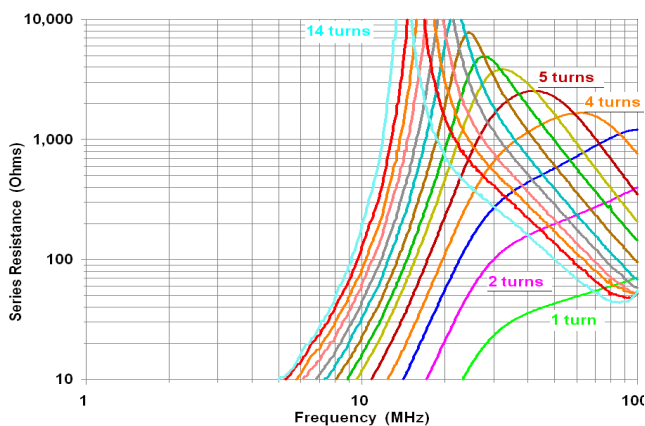

Fig 33 –  $R_s$  for chokes on 2.4" o.d. Fair-Rite #61
- ♦ **Inductive Ferrite Choke Balun** The line is wound around a toroidal ferrite core that has low loss at the frequency where the balun is used, so all (or nearly all) of the impedance is inductive. The line may be coax or it may be balanced. Reiser's toroidal baluns are wound on #61 material, which has low losses at HF (Fig 12, Fig 33).